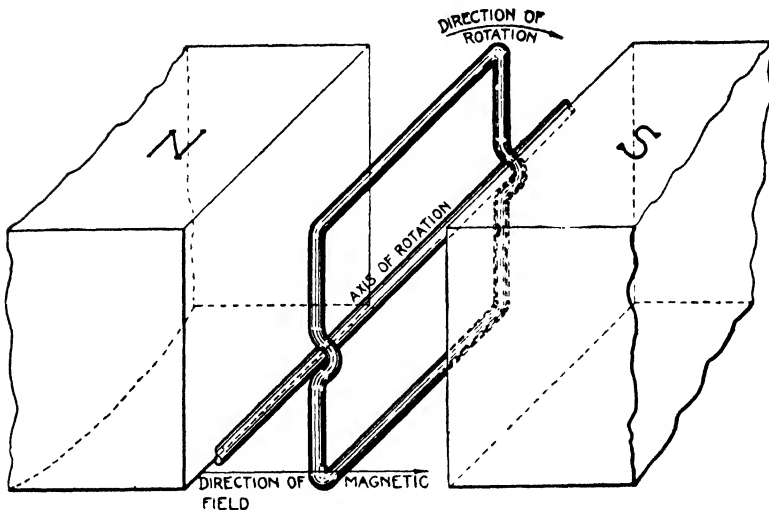
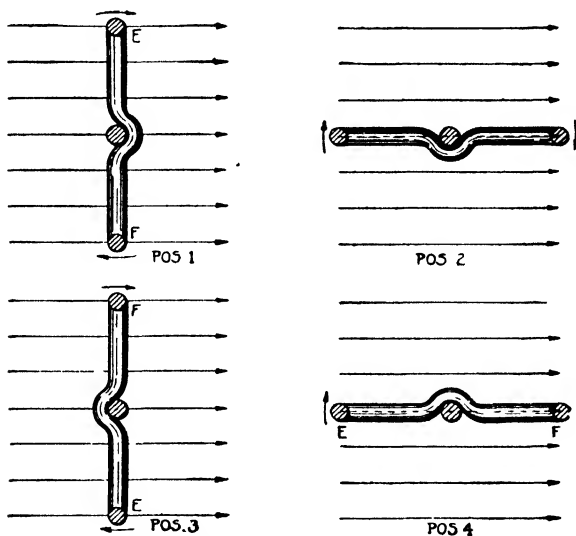

Fig. 7. Closed Loop of Wire Revolving in a Uniform Magnetic Field
Fig. 8. Four Different Positions of a Loop as It Revolves in a Magnetic Field
**Action of Loop.** The arrangement just described may be greatly improved upon by revolving a loop of wire in a magnetic field, as shown in Fig. 7. Four positions of the loop are shown in cross-section in Fig. 8, and the e.m.f. induced in the loop for these different positions may be determined as follows: In position 1 the plane of the loop is perpendicular to the direction of the mag-
Since the value of e.m.f. or voltage produced in the conductors depends upon the number of "lines of force" crossed, these sine tables will tell us what part of the maximum voltage is produced at any position of the conductors or loop. These values can be plotted as a curve, Fig. 10, in which the maximum voltage produced (abbreviated  $E_{\max}$ ) in position 2 of the loop, Fig. 8, is multiplied by the sine of the different number of degrees. This curve, Fig. 10, is called a sine curve because the height of the curve above the zero line at different places is obtained by the use of these sine tables. The distances along the zero line, Fig. 10, are divided into degrees from zero to  $360^\circ$ , but only  $90^\circ$ ,  $180^\circ$ ,  $270^\circ$ , and  $360^\circ$  are marked; these correspond to the position of the loop in Fig. 8. The distances along the zero line correspond to the values of the angle  $\theta$ . Such a curve is called a sine curve.
**FUNCTION OF SLIP RINGS.** In order to make use of the e.m.f. generated in the loop, Fig. 7, in producing a current in an electrical circuit, it is necessary to provide some means of connecting the loop in series with the circuit in which the current is to be produced. Such an electrical connection may be provided by opening up the loop and connecting the two ends thus formed to two continuous metal rings, mounted on the axis of the loop and insulated from each other. Upon these rings are two metal or carbon